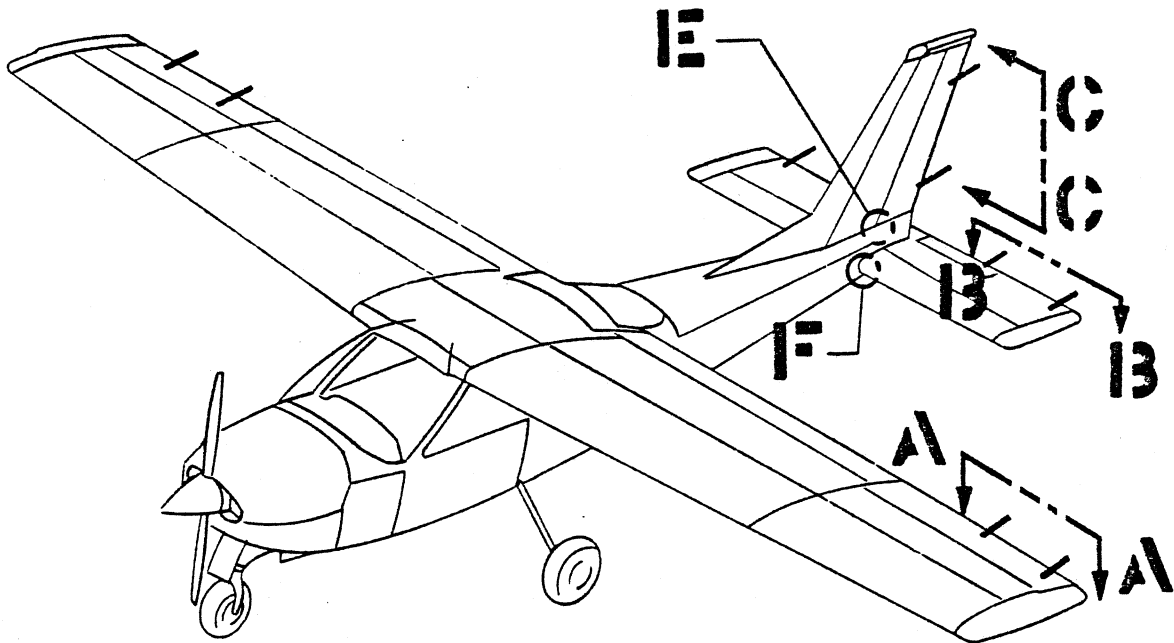

Figure 1. Static Discharger Installation.
a. (Refer to figure 1.) Installation of this kit consists of:
- (1) Installing static discharger wicks on upper aileron surface.
- (2) Installing static discharger wicks on upper stabilator and trim tab surface.
- (3) Installing static discharger wicks on rudder.